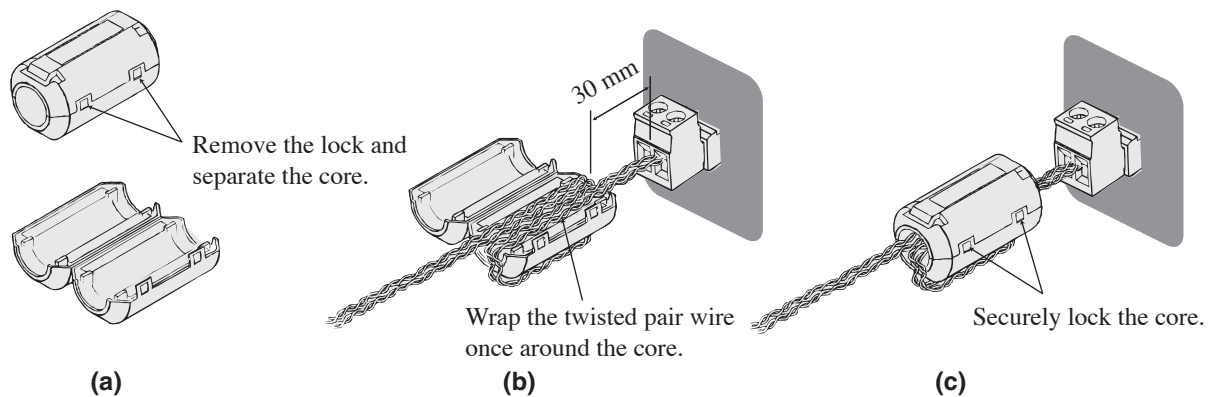

Fig. 1-13 TP-BUS Core Attachment
1. Remove the lock indicated in Fig. 1-13 (a) and split the core into halves.
Wrap the wire so that the distance between the core and the connector is within 30 mm. See Fig. 1-13 (b).
See Fig. 1-13 (c).